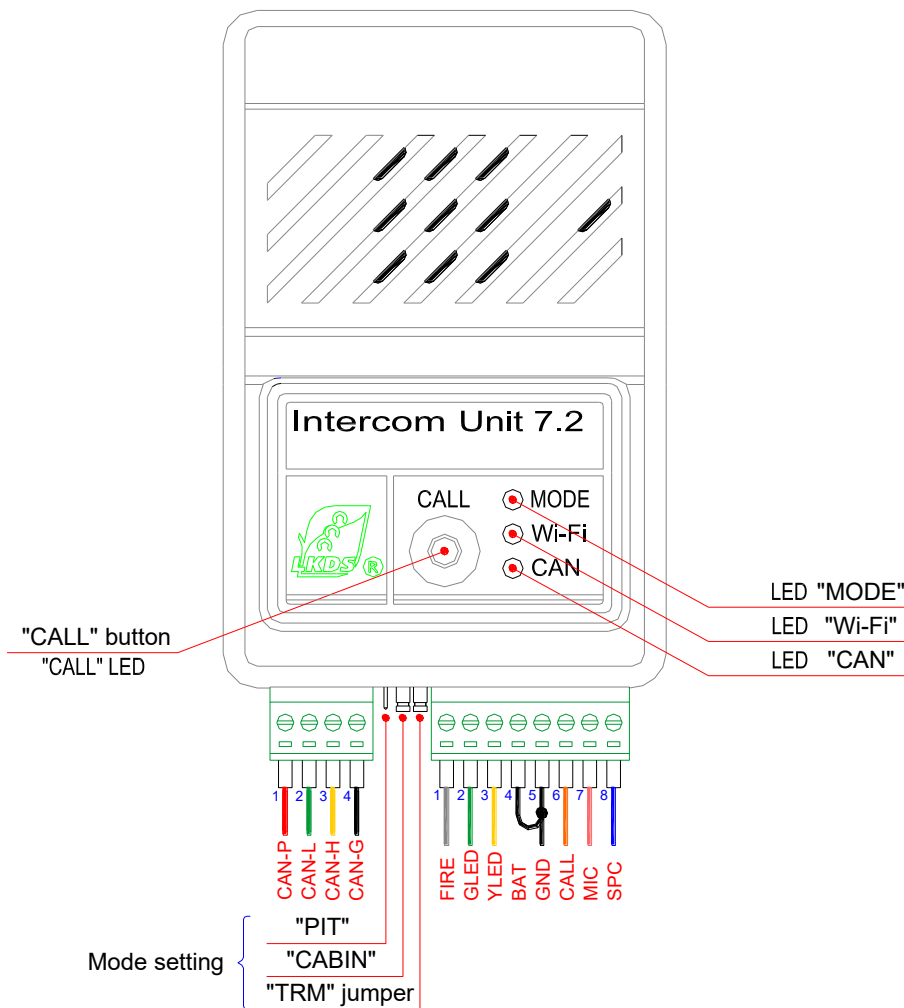

Fig. 1. Appearance of IU 7.2, sockets, controls and indicators
- IU 7.2 designed as a plastic box (see. Fig. 1). There are several controls could be found on the front panel: